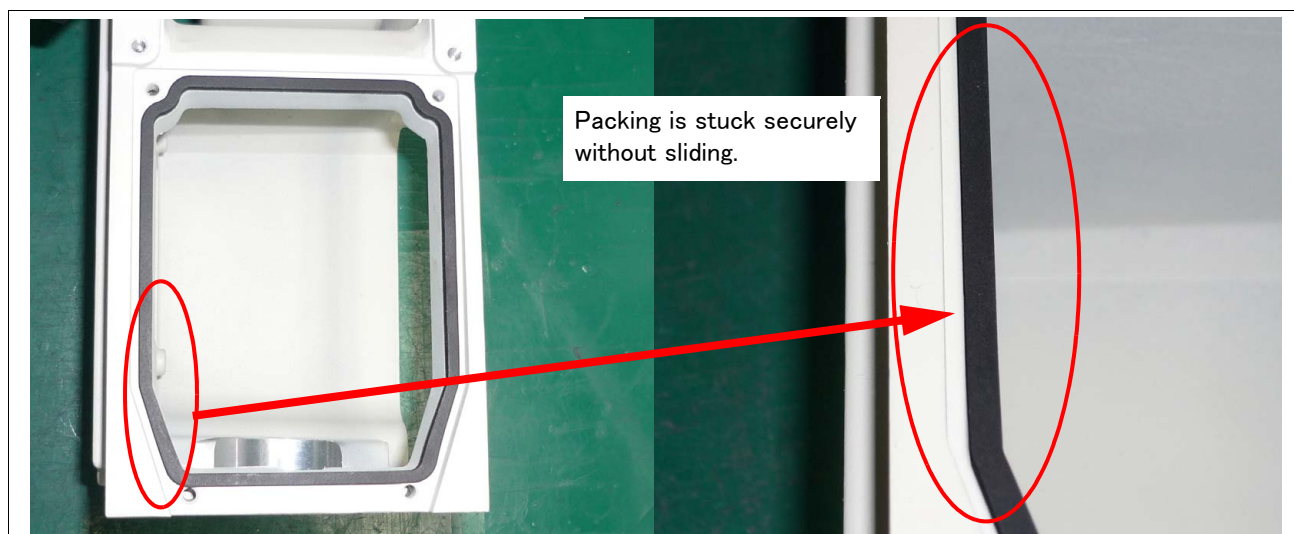
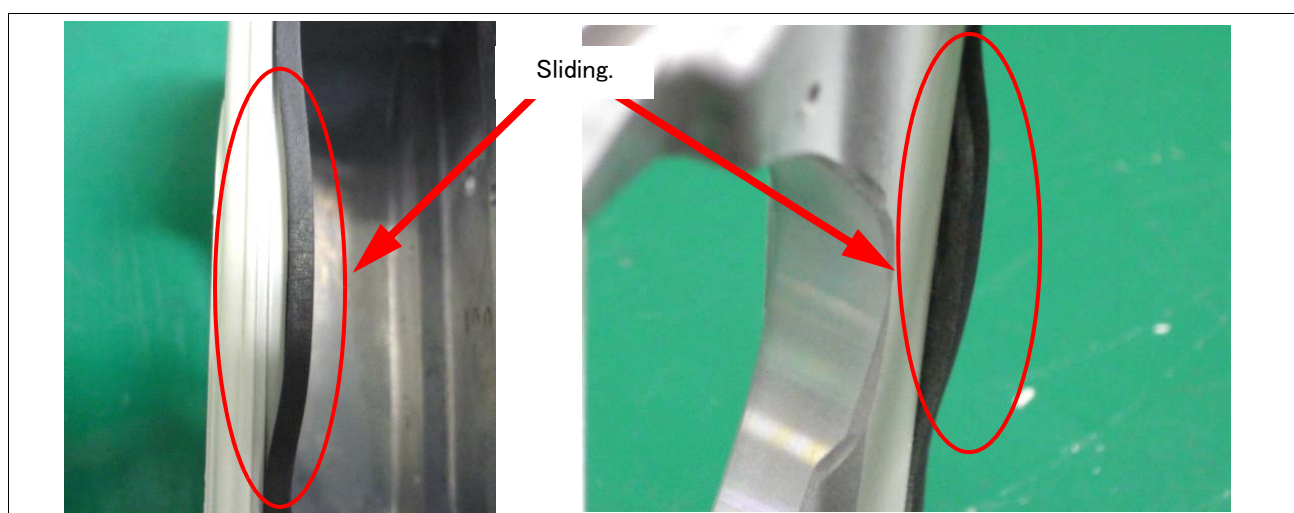

Fig.5-6 : Example of sticking packing (good example)
Fig.5-7 : Example of sticking packing (bad example)
- 2) The sticking surface of packing is double-coated adhesive tape. Referring to "Fig.5-6 : Example of sticking packing (good example)" and "Fig.5-8 : Sticking the cord-like packing", and stick the packing in line with form. Be careful for the packing not to slide. The example of unsuitable packing slid is shown in "Fig.5-7 : Example of sticking packing (bad example)".